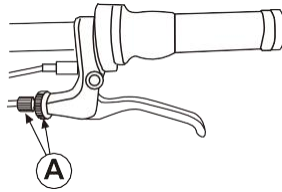
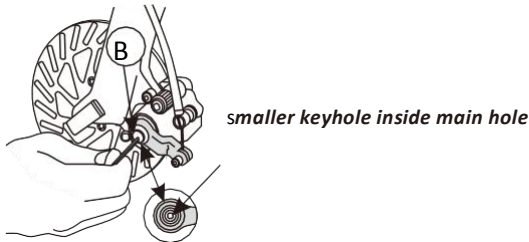
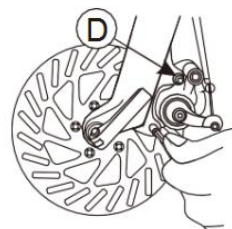

Fig.9 Brake Lever Adjustment
Fig.11 Disc brake pad adjustment
Fig.14
- To alter the travel of the brake lever adjust screw A (see fig. 9), unscrew screw A reduce the amount of lever travel and by tightening it increase the lever travel. If you have fully unscrewed screw A and the lever travel is still excessive you will have to adjust the space between the pads and the disc.
- Tighten screw A (Fig.9) up to the brake level. Go to Fig.11 and insert an allen key into the smaller hole inside allen key hole B. Rotating the allen key clockwise pushes the outer brake pad forward by approx.0.8mm After each turn, check the braking performance.
- To fit new pads, remove the brake calliper from the fork or frame by unscrewing allen bolts D(Fig.14). Unscrew (anti-clock wise), the smaller allen bolt inside allen bolt B(Fig.11). Lift up and pull the inner pad downward, using the protruding part. Slide a thin slot screwdriver under the outer pad and lift it up. Hold the screwdriver in this position and remove the pad with a pair of long nosed pliers.